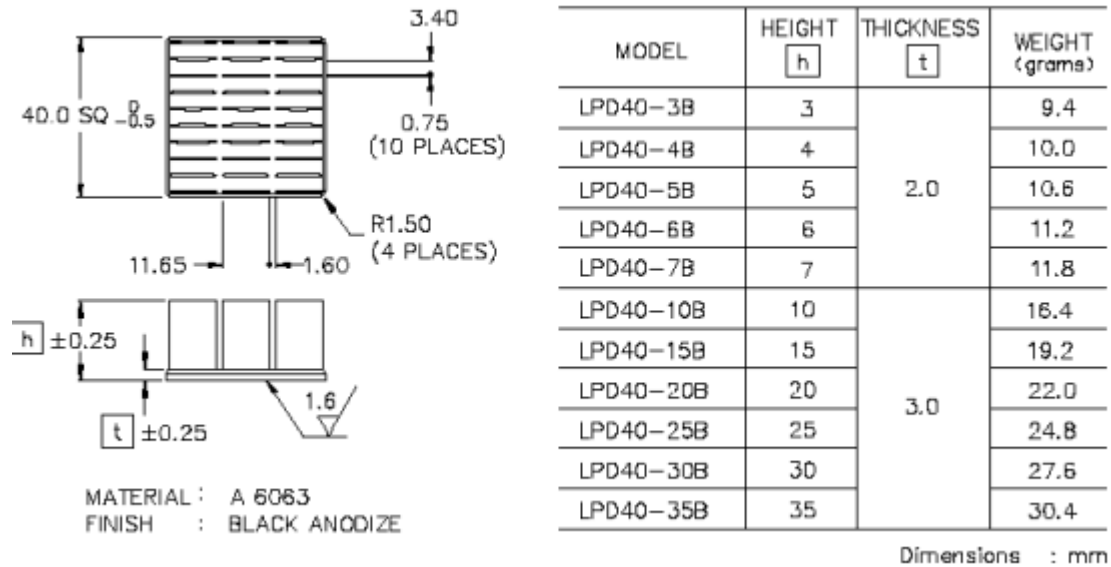

Figure 13-4 10mm Height Passive Heat Sink (Alpha Novatech, Inc. PN: LPD40-10B)
- Attach the thermocouple at a 90° angle if there is no interference with the thermocouple attach location or leads (see Figure 13-4). This is the preferred method and is recommended for use with packages with heatsinks.